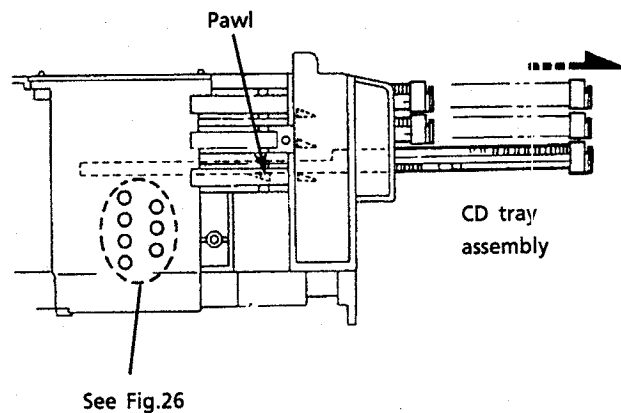

Fig. 24
11. Check that the driver unit elevator is seen from a hole (marked ⑨) on left side of the CD changer mech..(See Fig. 24 and 25.)
13. And, pull all 3 CD tray assemblies forward until they stop. (See Fig. 24.)